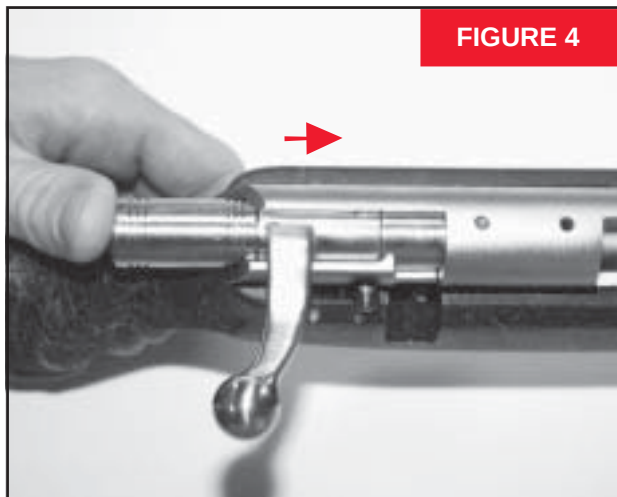

FIGURE 4
1. With the Bolt Assembly in the cocked position, align the bolt assembly in the same position as when removed in Figure 3. Using the thumb, push forward on the Bolt Cap, past the initial resistance, until the Bolt Assembly stops (Figure 4).